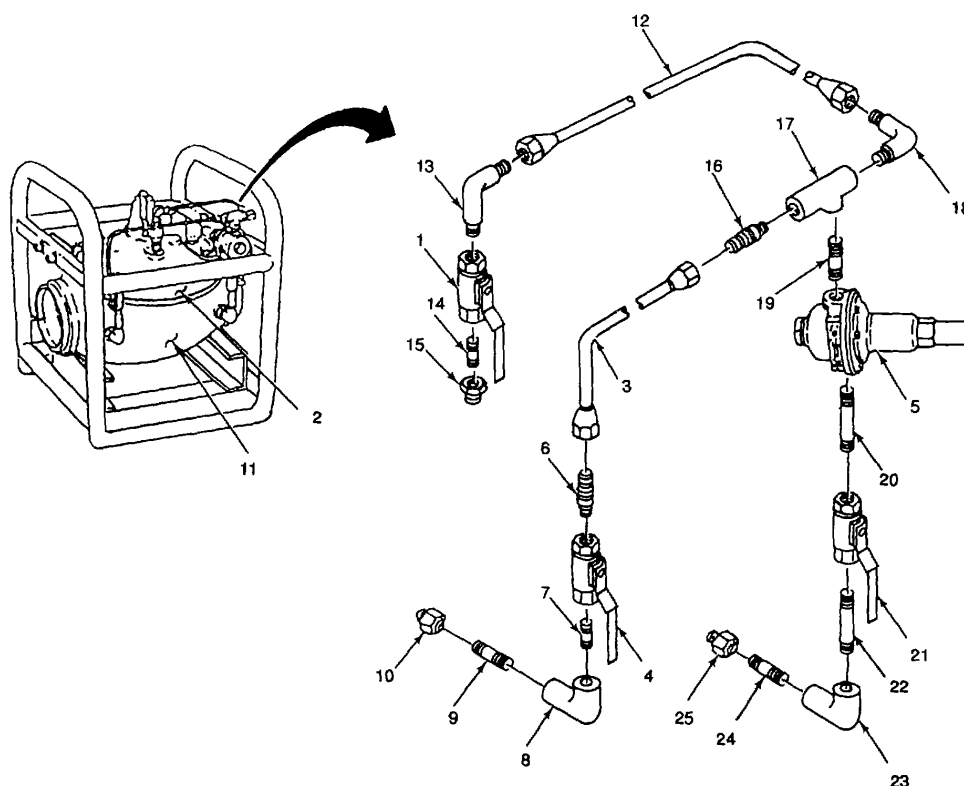

Figure 5-1. Pressure-Reducing Control
- a. DISASSEMBLE (Figure 5-1).